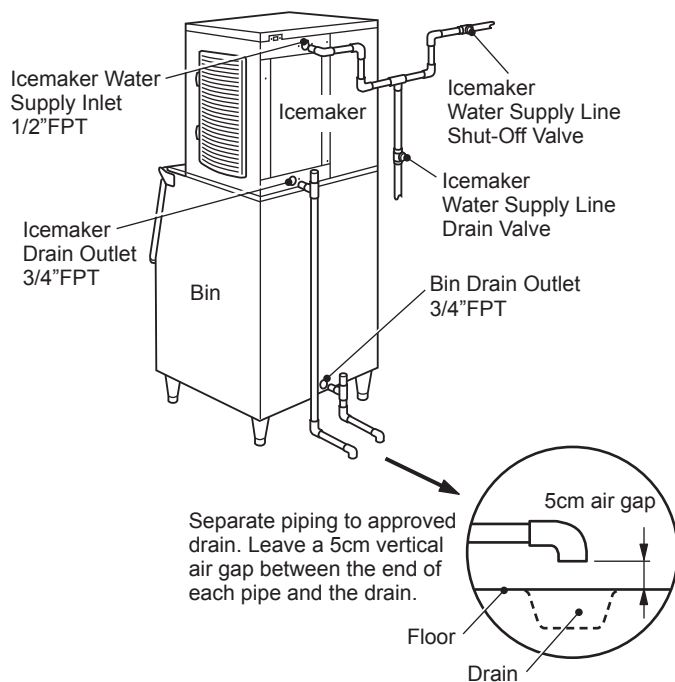

Fig. 6
- * A vented tee connection is required for proper drain flow. See Fig. 6.
- * The icemaker drain line must be run separately from the storage bin/dispenser unit drain line. See Fig. 6.